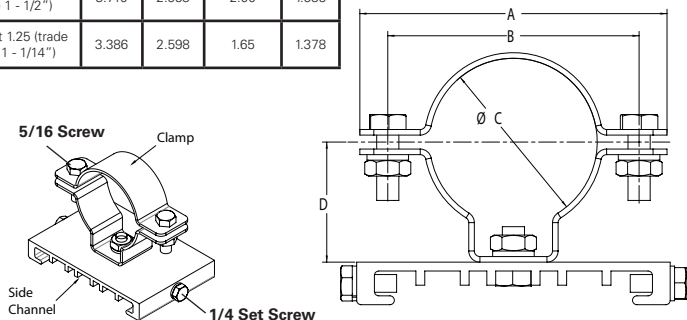

Figure 6. PM KIT – Pole Mount Details
3. Verify that the clamp (see Figure 6) internal diameter is consistent with the diameter of the pole prior to installation. Clamps are available in 1.65" (42mm), 2.00" (51mm) and 2.36" (60mm) sizes.
5. Slide the two (2) pole mount brackets onto the fixture, engaging the flange on the top of the fixture.
6. Tighten the two (2) 1/4" set screws on each slide bracket until they bottom (see Figure 6). Torque to 78 in.-lbs. (8.8 N-m).
7. Remove the two (2) 5/16" screws, lock washers and nuts on each clamp and remove the upper clamp halves.
8. Fixture is now ready for mounting. It is strongly suggested to use two (2) qualified tradespeople to proceed with the final mounting of the fixture. This is recommended to avoid any personal injury or damage to the fixture.
10. Install the two (2) upper clamp halves and the 5/16" screws, lock washers and nuts on each clamp.